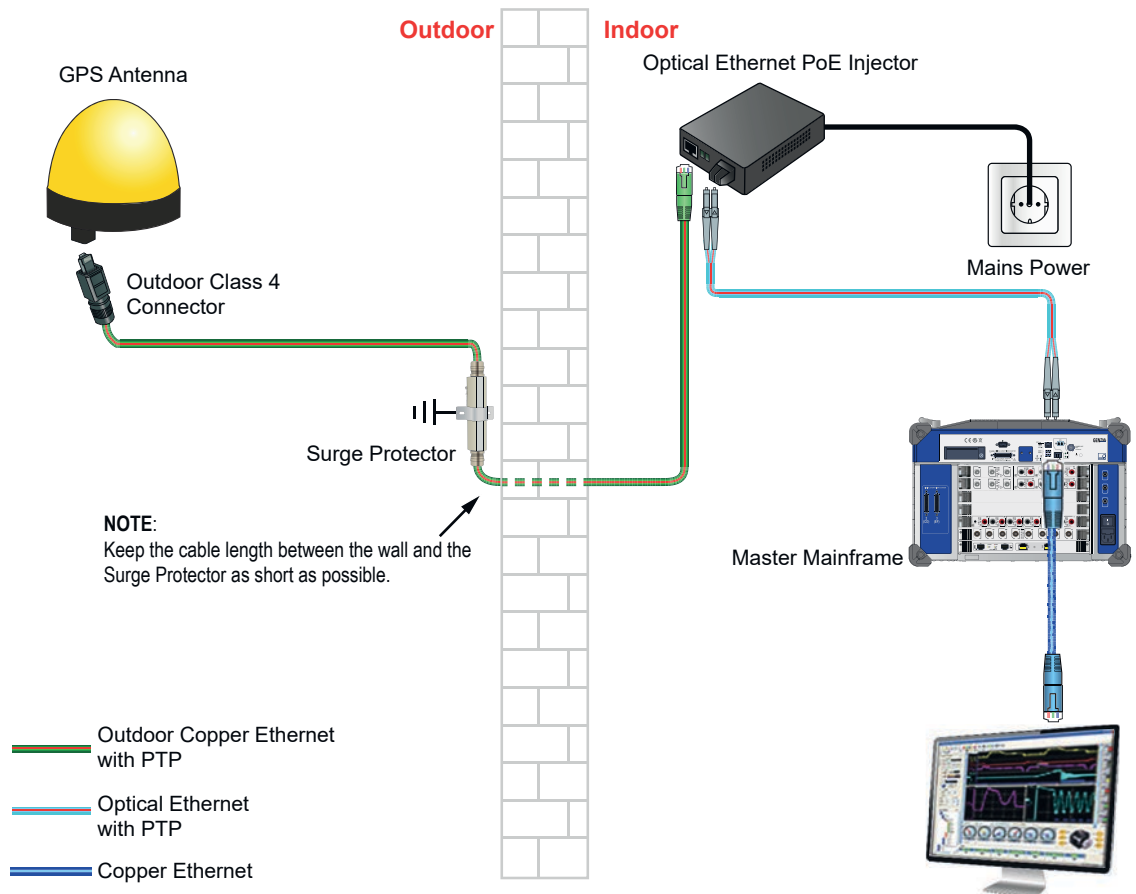

Figure 14.12: Block diagram GPS time synchronization
- 6 After finishing these steps the G002B option is fully installed and operational. Please refer to Figure 14.12 for an overview of the installed option.